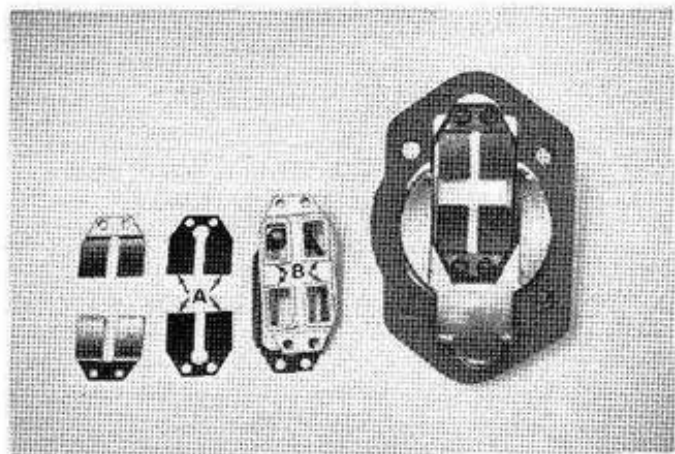

Figure 62. Reed Adapter Inspection.
- b. Unscrew the carburetor mounting nuts (C), and remove the carburetor from the engine.
- c. Remove the four hex head mounting screws (D) with a thin walled 3/8" socket, and lift the reed adapter assembly from the engine.
- a. Inspect for proper seating of reeds (A) on the die cast portion of the assembly (B). No clearance should be noted if the reeds are seated properly. (See Figure 62.)